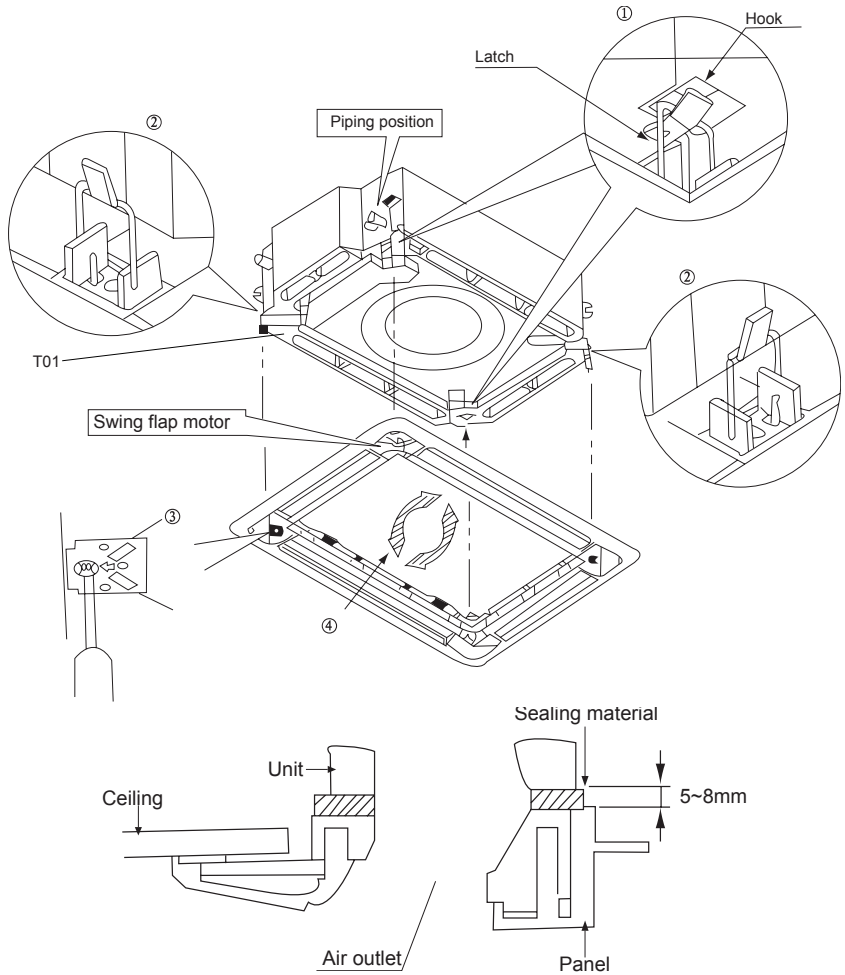

Fig.28
- 4) Adjust the panel by turning it to the arrowed direction in Fig.28 so that the ceiling opening is completely covered.